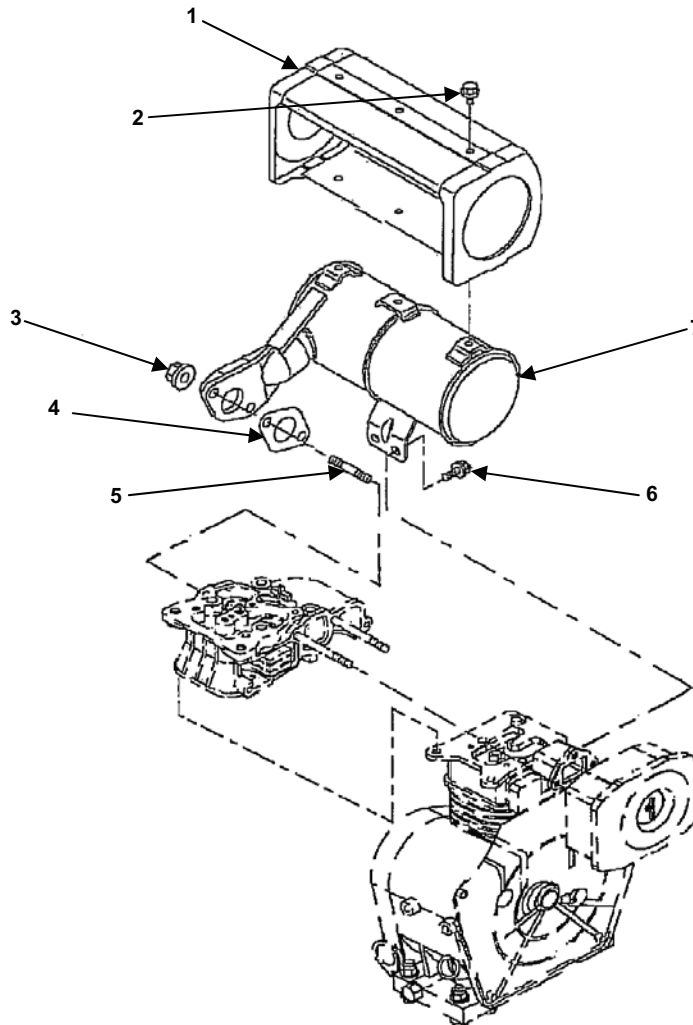

Figure 1. Muffler Removal.
1. Remove the bolts (Figure 1, item 6), nuts (Figure 1, item 3) and remove the muffler assembly (Figure 1, item 7) from the engine.
2. Remove gasket (Figure 1, item 4).
3. Remove screws (Figure 1, item 2) and muffler cover (Figure 1, item 1) only if necessary.
4. Removing mounting studs (Figure 1, item 5) only if necessary.
1. Refer to Figure 1 for this procedure section.
2. Install mounting studs (Figure 1, item 5) if necessary.
3. Install muffler cover (Figure 1, item 1) on the muffler (Figure 1, item 7) and secure with screws (Figure 1, item 2) if necessary.
4. Slide the gasket (Figure 1, item 4) on the mounting studs.
5. Install the muffler (Figure 1, item 7) and secure with nuts (Figure 1, item 3) and bolts (Figure 1, item 6)